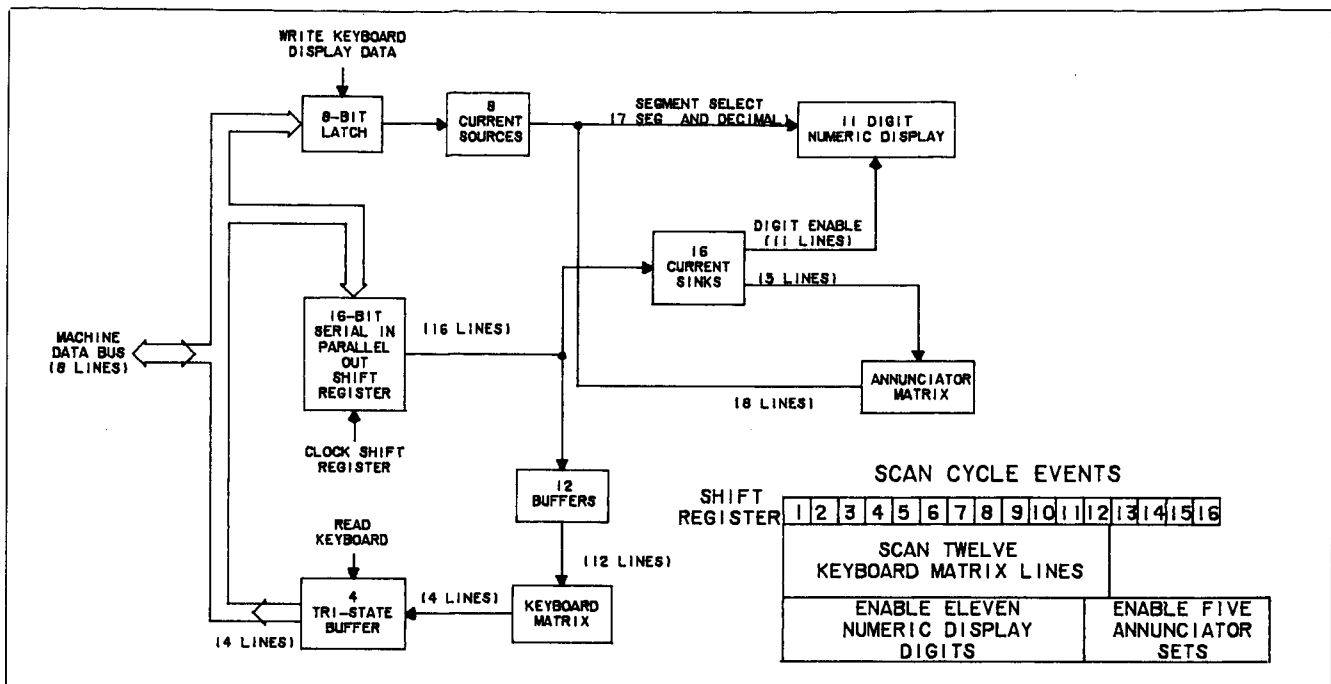

Figure 8-3. Keyboard and Display Block Diagram.
8-8. **Keyboard Scan.** Figure 8-3 is a block diagram of the Keyboard and Display circuits. To determine if a key has been pressed, a single high bit is shifted into the first position of the 16-bit register, and the four-line output of the keyboard matrix is read onto the machine data bus by the Read Keyboard clock signal. The high bit is then shifted one position in the register and the keyboard matrix output is read again. This process is repeated through the twelve input lines to the matrix. The high input bit is inverted by the keyboard buffers. A low level on one of the four matrix output lines indicates that a key has been pressed, and the control circuits initiate the proper action. After a low level has been detected, the control circuits look for a high level from the same key before the same action can be repeated. In other words, if the 5 key has been pressed, only one 5 will be processed even though the key is held through more than one keyboard scan cycle.
**8-11. Scan Cycle.** Approximately 14 milliseconds are required for a complete scan of the Keyboard and Display. During each scan cycle, the events shown in Figure 8-3 happen concurrently.